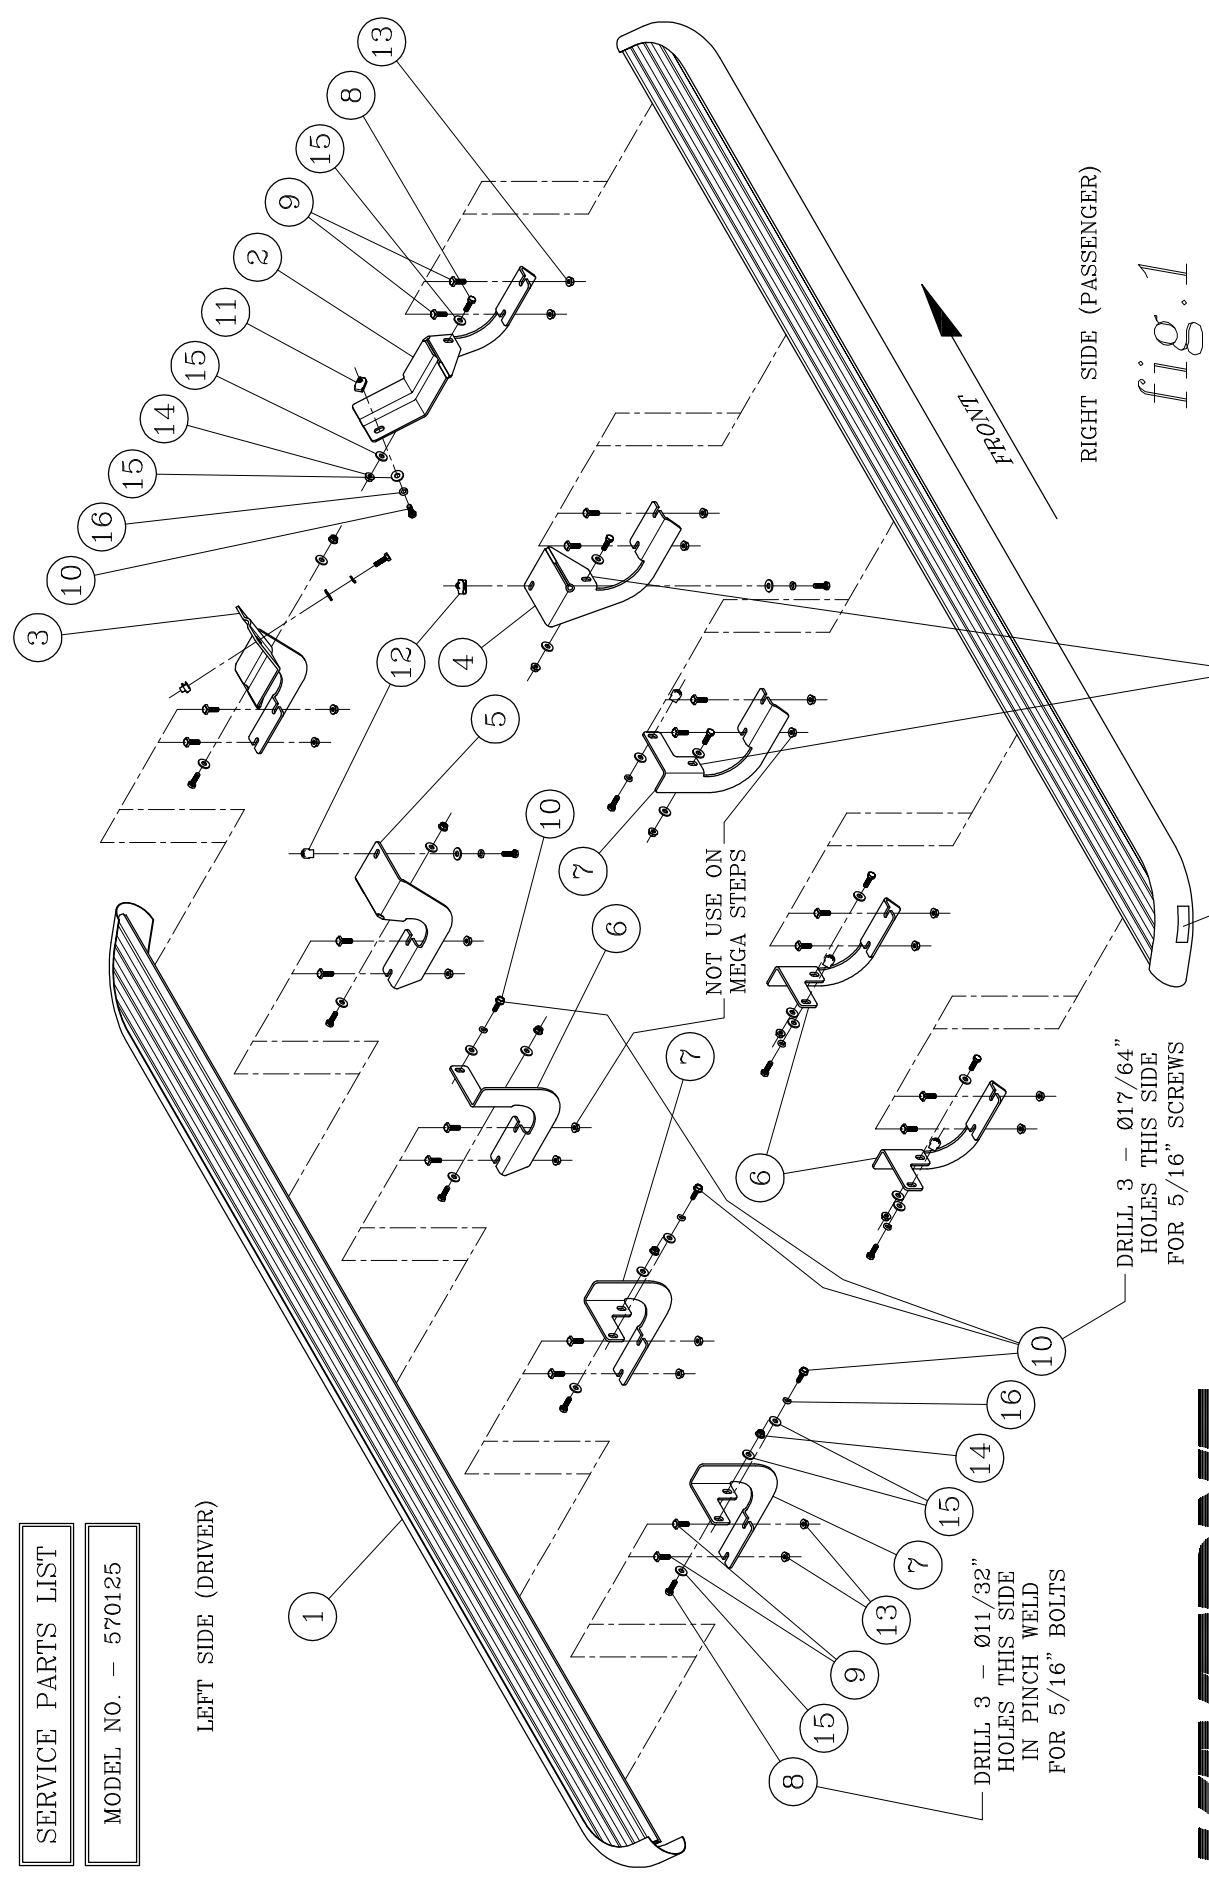

fig.1
3. BEFORE ATTACHING THE O-MEGA STEPS TO THE BRACKETS, PLACE THE STEP PADS (ITEM #2) ON TOP OF THE STEP PLATES. USE THE TABLE ON SHEET #2, AS A GUIDE TO POSITION THE STEP PAD FOR YOUR PARTICULAR VEHICLE. WHEN INSTALLING THE PADS ON THE STEPS, DRILL (5) 1/8" HOLE USING THE STEP PAD AS A GUIDE. ATTACH WITH (5) 8-18X1/2" TEK SCREWS (ITEM #6) PROVIDED. REPEAT FOR ALL STEP PADS. (NOTE: DUE TO THE SHORTNESS OF SOME BOXES, MOUNT THE BOX STEP PAD FIRST, APPROXIMATELY 1/2" FROM THE END CAP AND THEN MOUNT THE MIDDLE STEP PAD ACCORDINGLY.)
5. INSTALL THE END CAPS (ITEM #3) AS SHOWN IN *fig. 1*, TIGHTENING THE NUTS TO 5 LB FT.
3. INSTALL THE MOUNTING BRACKETS (ITEMS #2, #4, #6 & #7) USING THE 5/16-18 X 1" HEX BOLTS (ITEM #8), 5/16" FLAT WASHERS (ITEM #15) AND 5/16" LOCK WASHERS (ITEM #16) AS SHOWN IN FIG. 1. INTO THE MULTI THREAD U-NUTS. FINGER TIGHTEN ONLY AT THIS TIME.
4. INSTALL THE 5/16-18 X 1" HEX BOLTS (ITEM #8), 5/16" FLAT WASHERS (ITEM #15) AND BLACK PLATED 5/16" SERRATED FLANGE NUTS (ITEM #14) THROUGH THE HOLES IN THE LOWER PINCH WELD AND THE BRACKET AS SHOWN IN FIG. 1. FINGER TIGHTEN ONLY AT THIS TIME.
11. MOUNT ONE OF THE (ITEM #6) BRACKETS TO THE END OF THE STEP PLATE AS SHOWN IN FIG. 1. (**NOTE:** THE HOLES THROUGH THE FLANGE OF THE THREE REAR BRACKETS SHOULD BE 51-1/2", 73-1/4" AND 92-1/8" FROM THE FRONT. CHECK THE PASSENGERS SIDE OF THE VEHICLE FOR THE LOCATIONS.
16. USING THE TOP HOLES IN THE BRACKET AS A GUIDE, DRILL Ø17/64" HOLES THROUGH THE INSIDE BODY PANEL AND INSTALL THE 5/16 X 1" WASHER HEAD SCREWS (ITEM #10), 5/16" FLAT WASHERS (ITEM #15) AND 5/16" LOCK WASHERS (ITEM #16) AS SHOWN IN FIG. 1.